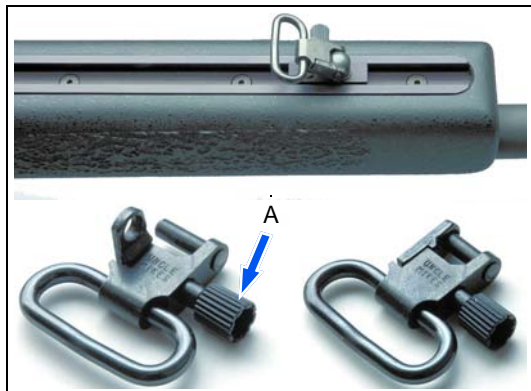

Fig. 17, Sling swivel bushing
1. Unscrew the knurled knob **Fig. 17/A** to the left.
Corresponding figure, see Fig. 17.